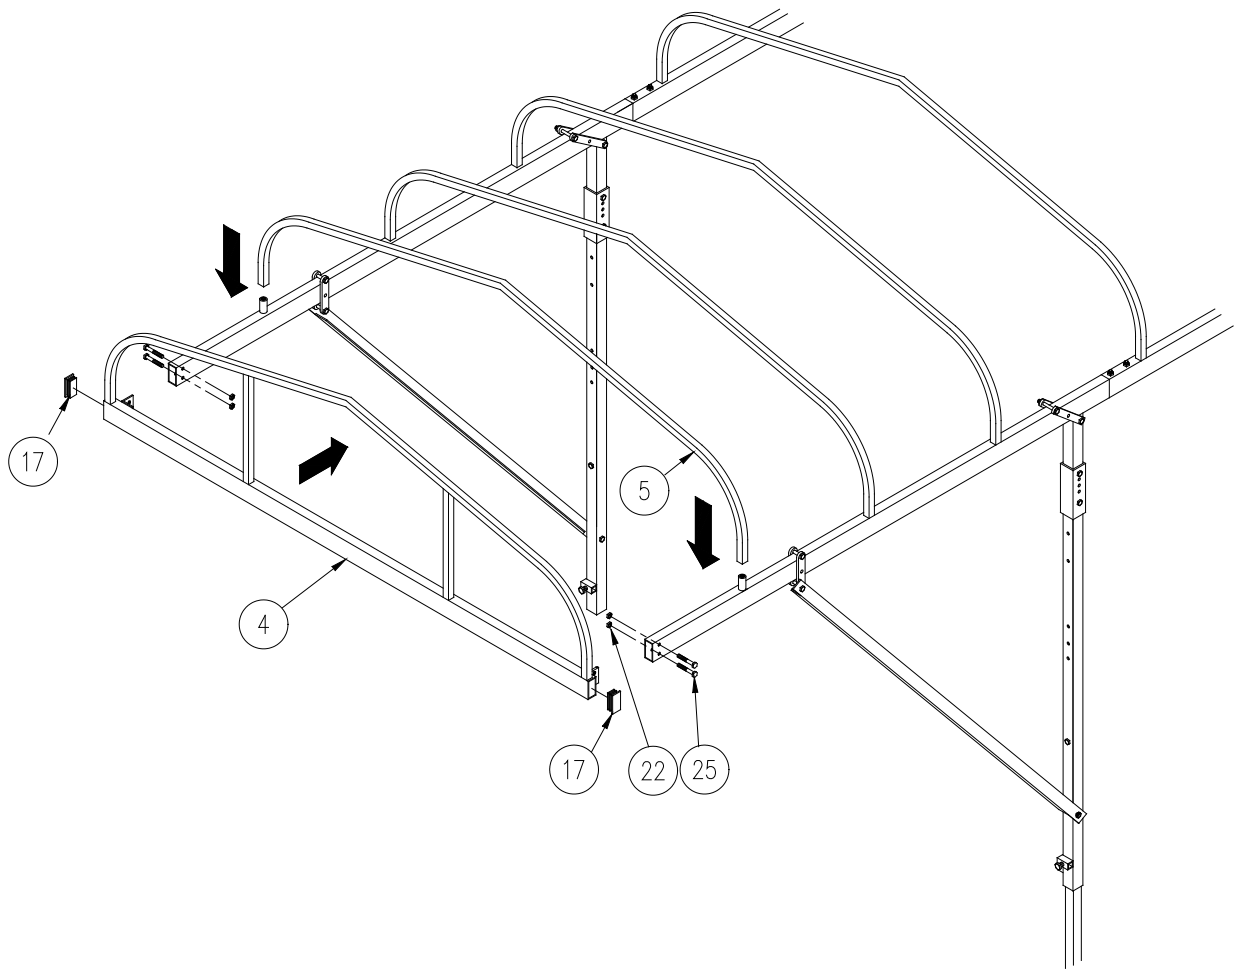

Figure 2-5.
7. Refer to **Figure 2-5**. Attach each canopy end cap to the side stringers using (1) top gusset, bottom gusset, and hardware shown for each corner connection. Before tightening hardware, square the canopy frame by placing a carpenter or combination square into each corner and positioning canopy stringers and end caps to provide a 90 degree corner joint. Tighten hardware to lock into position.